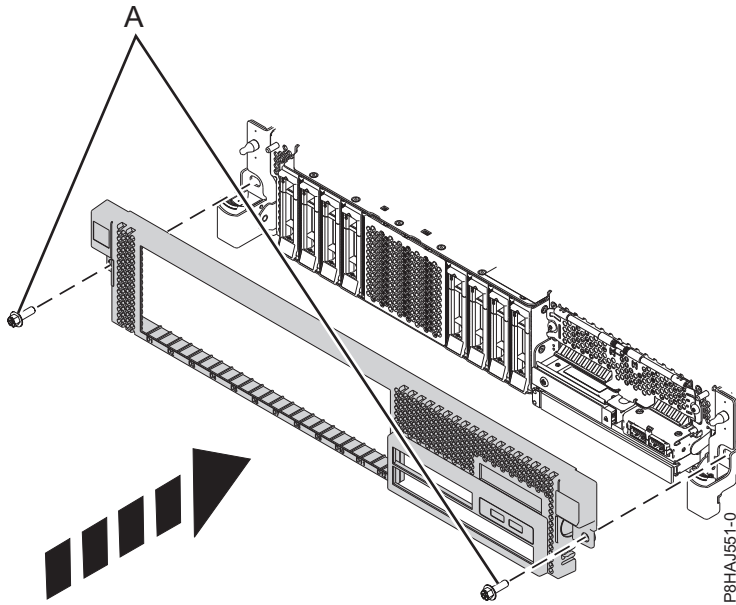

Figure 80. Installing the front cover
3. Close the release latches by pushing in the direction shown in Figure 80 on page 100. The cover snaps into place and has an indentation where you can hold onto it more easily.
4. Replace the shipping screws (A).